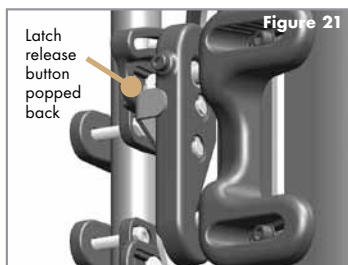

Figure 21
2. Push the back shell down and back firmly to engage the top two attachment pins into the upper receiver slots (Figure 21).
3. Check that both latch release buttons have popped back, indicating that the latches are engaged (Figure 21).